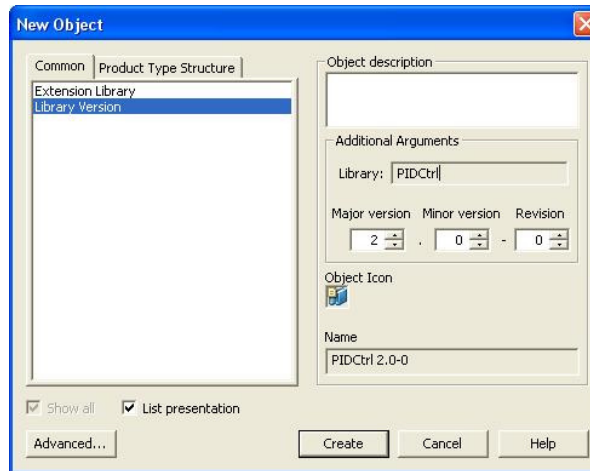

Figure 345. Creating New Major Version - New Object Dialog Box
- Right-click the Library object and select **New Object**. Select **Library Version**. Enter or accept the proposed version designation for the predetermined Library, see Figure 345. Click **Create**. All objects from the previous library version are automatically copied to the new version.